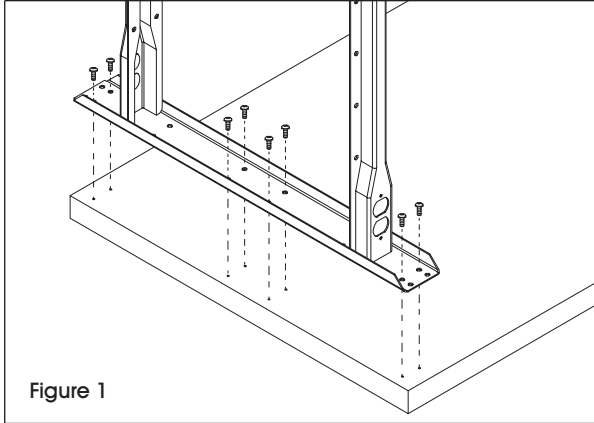

Figure 1
1. Using 24 wood screws, attach legs to the under side of the top (5) through pre-drilled holes. (See Figure 1)